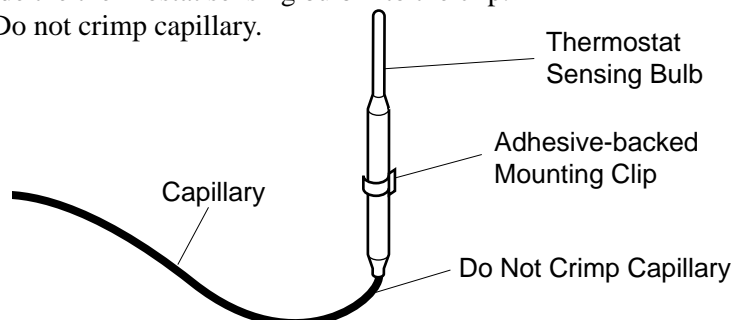

Figure 32 - Positioning the Thermostat Sensing Bulb in the Vertical Position with the Capillary at the Bottom
5. The mounting clip must be a minimum of 3" from bottom of fireplace to prevent crimping of capillary. Once you have decided on a location, clean the area thoroughly. Remove the paper backing from the adhesive on back of mounting clip. Press the clip into the new location so that the thermostat sensing bulb will be positioned vertically with the capillary at the bottom (see Figure 32). Slide the thermostat sensing bulb into the clip.